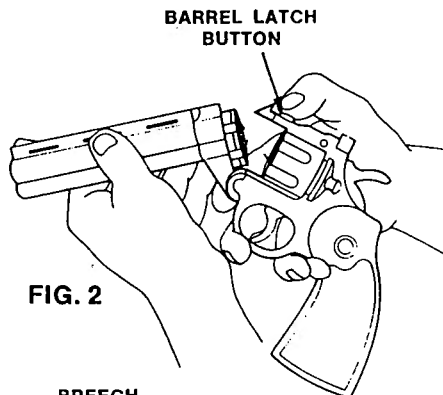

FIG. 2
- B. Press the Barrel Latch Button down and open the Barrel. Fig. 2.